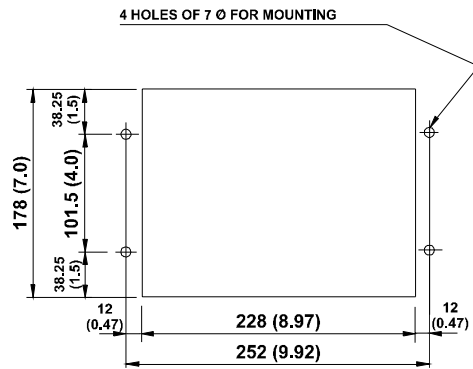

FIGURE 7: DIMENSIONS AND DRILLING FOR RDB86A2A
- Figure 7:** Dimensions and drilling for RDB86A2A